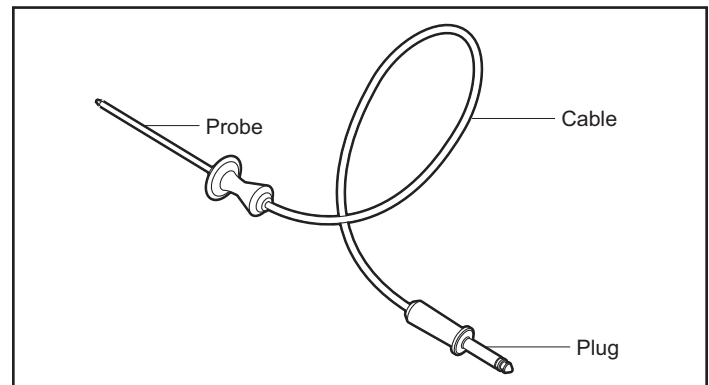

Figure 22: Meat Probe
2. Insert the plug end into the outlet (see Figure 22).